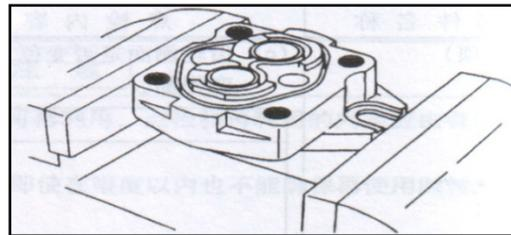

Figure 5-20
a) Fasten the front end cover on the clamp table as shown in figure 5-20.